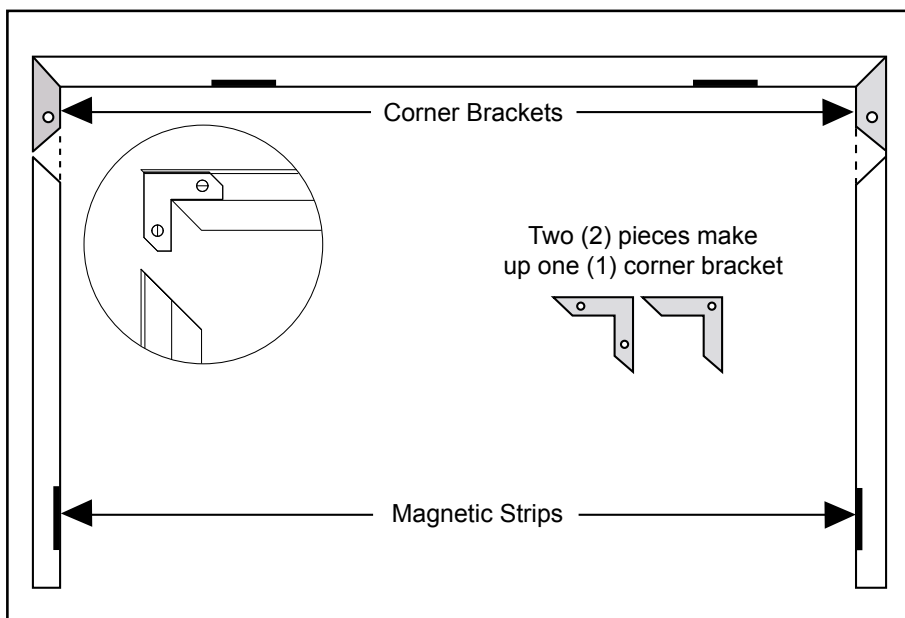

Figure 28: Assembling Trim for Surround Panel.
2. Assemble the trim using the corner hardware and screws supplied in the faceplate packaging. Install corner hardware into the side trim, then push into the top frame (refer to Figure 28).